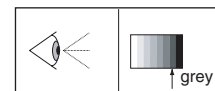

Fig.6
- Press "1" key to enter white balance adjustment (Page 1:Fig.6)